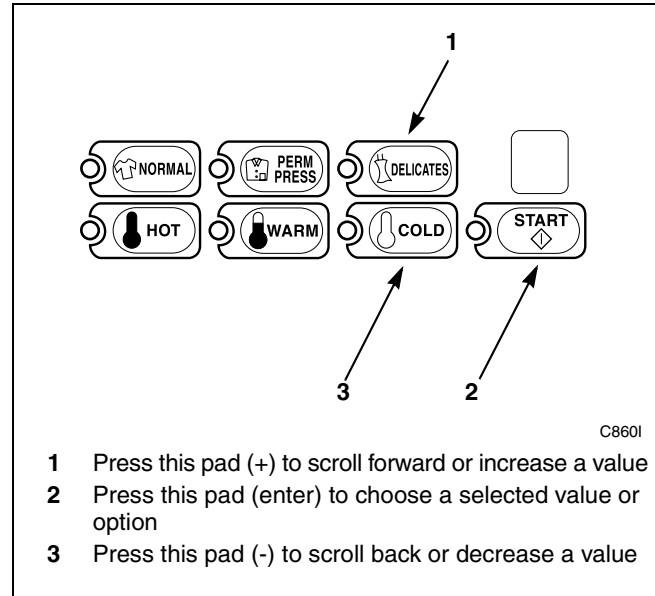

Figure 146
5. Press the DELICATES (+) or the COLD (-) keypad to increase or decrease the current number of minutes displayed in the VFD to the desired number of minutes. Refer to *Figure 146*.